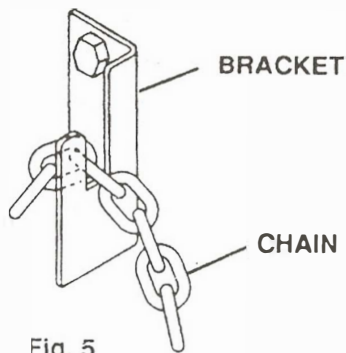

Fig. 5
- Hook the loose end of the chain onto the bracket by slipping the nearest link of the chain into the slot in the bracket (See Fig. 5), making sure the chain is pulled as tight as possible and that there is no excess slack in the chain after chain is attached to the bracket.